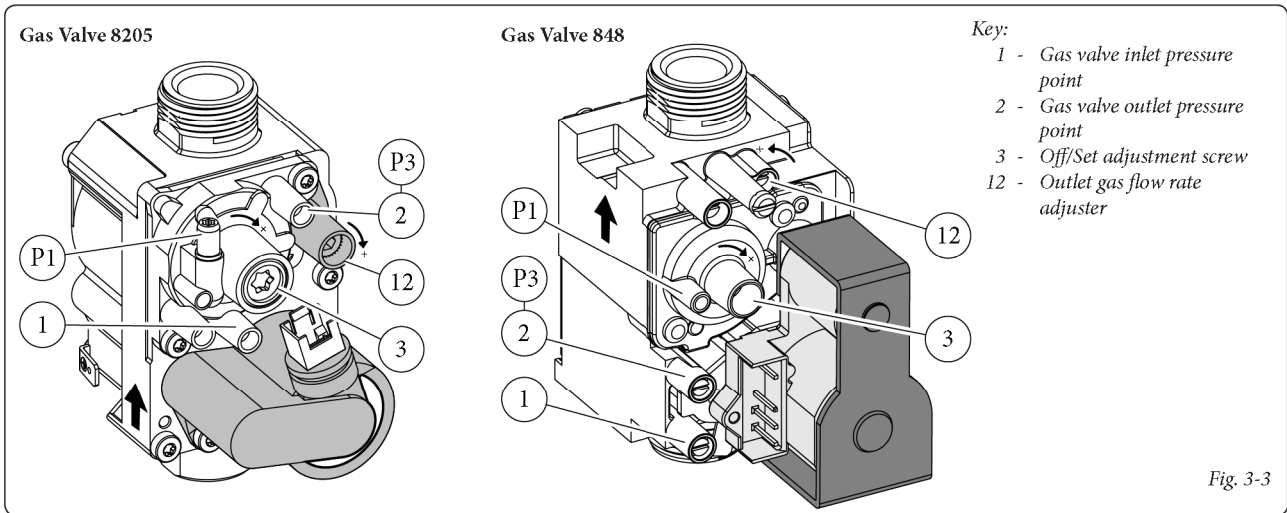

Fig. 3-3
Enter the chimney sweep phase without withdrawing domestic hot water and take the selector switches to minimum (turn them in an anti-clockwise direction until "0" is seen on the display). to have an exact value of CO2 in the flue gases the technician must insert the sampling probe to the bottom of the sample point, then check that the CO2 value is that specified in the table, otherwise adjust the screw (3 Fig. 3-3) (Off-Set adjuster). To increase the CO2 value, turn the adjustment screw (3) in a clockwise direction and vice versa to decrease it.
On completion of the adjustment of the minimum CO2 keeping the chimney sweep function active, take the heating selector switch to maximum (turn it in a clockwise direction until "99" is seen on the display). To have an exact value of CO2 in the flue gases the technician must insert the sampling probe to the bottom of the sample point, then check that the CO2 value is that specified in the table, otherwise adjust the screw (12 Fig. 3-3) (Gas flow adjuster).